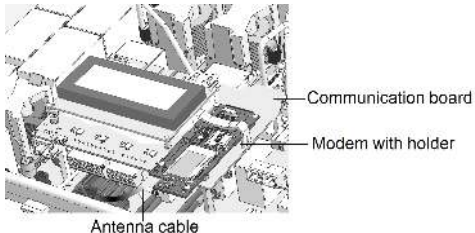

Figure 15: Installed modem
1. Locate the modem in its place on the communication board. Make sure that the modem is firmly in place (see *Figure 15*).